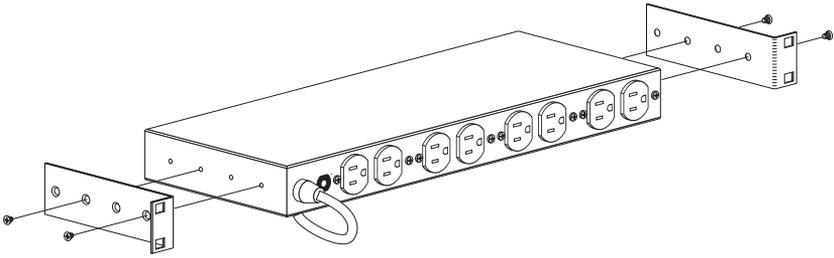

Figure 4: Attaching Mounting Brackets
- 2 Attach the mounting brackets to the MasterSwitch. (See Figure 4.) Use a #2 Phillips-head screwdriver and two of the supplied screws to attach each mounting bracket to the MasterSwitch.